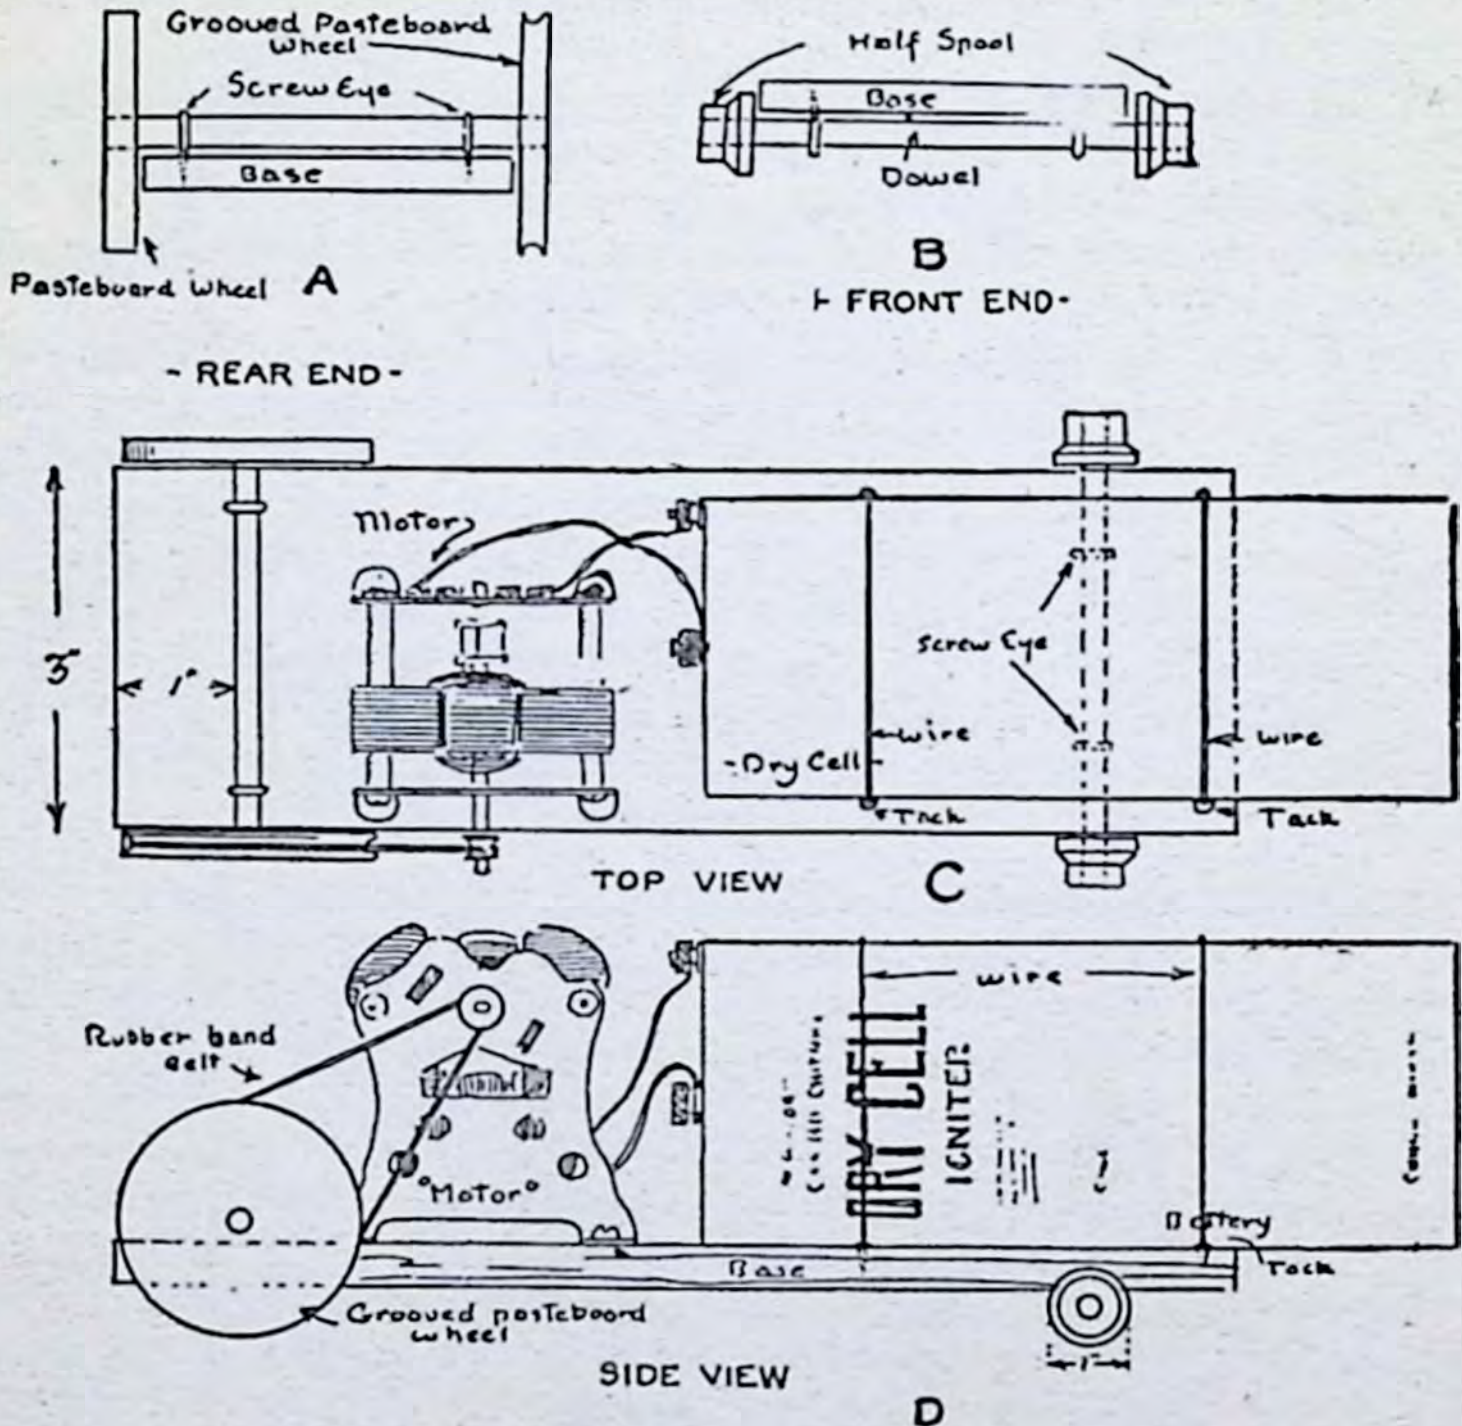

Fig. 48
(56) **HOW TO MAKE AN ELECTRIC TRACTOR:** To make this tractor saw out a wood base  $\frac{1}{2}$  inch thick, 3 inches wide, and 9 inches long. Next make two drive wheels, one of them grooved, of pasteboard  $\frac{1}{4}$  inch thick and 2 inches in diameter (see Experiment 51) and make a  $\frac{1}{4}$ -inch hole in the center of each one. Cut off a piece of dowel  $3\frac{3}{4}$  inches long for the axle, screw a couple of screw eyes into the baseboard 1 inch from one end and  $2\frac{1}{2}$  inches apart, slip the dowel through the screw eyes and then glue the wheels on the ends of it, all of which is shown at A in Fig. 48.